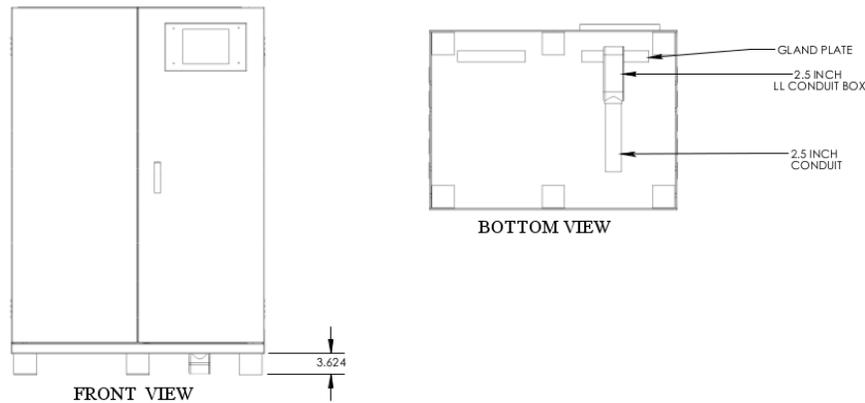

Figure 21—2.5 in Cable Conduit with Aluminum Access Plate
- 1 Land cables using an elbow conduit. For this purpose, Power Innovations will replace the rubber cable gland located on the bottom of the Q-LS with an aluminum plate. As noted below, the Q-LS leg supports provide 3.624 inches of clearance (Figure 21).**